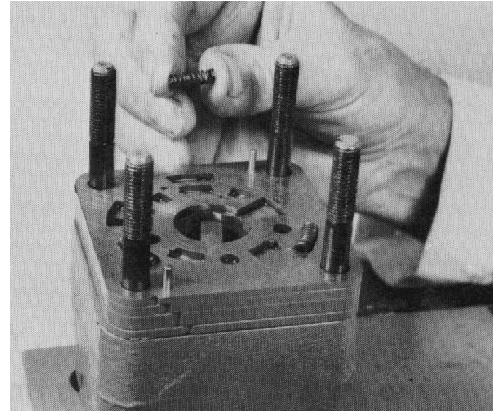

Figure 97
34. Put the three 1/2 in. (13 mm) springs into the spring pockets of the isolation manifold (Fig. 97).